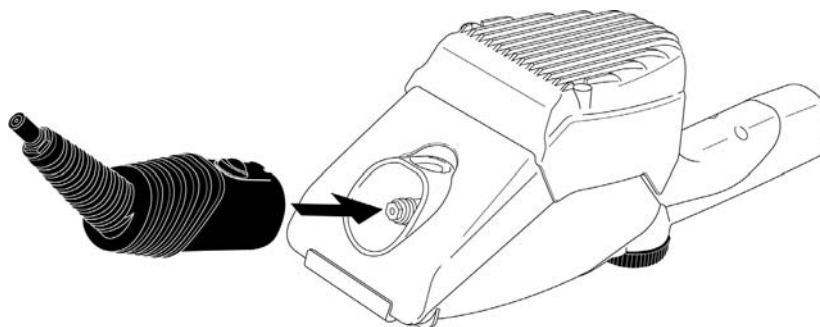

FIGURE 5
1. Align Steam Jet Nozzle with main unit steam nozzle as shown (FIGURE 5), so that release button on attachment aligns with hole on steam nozzle.